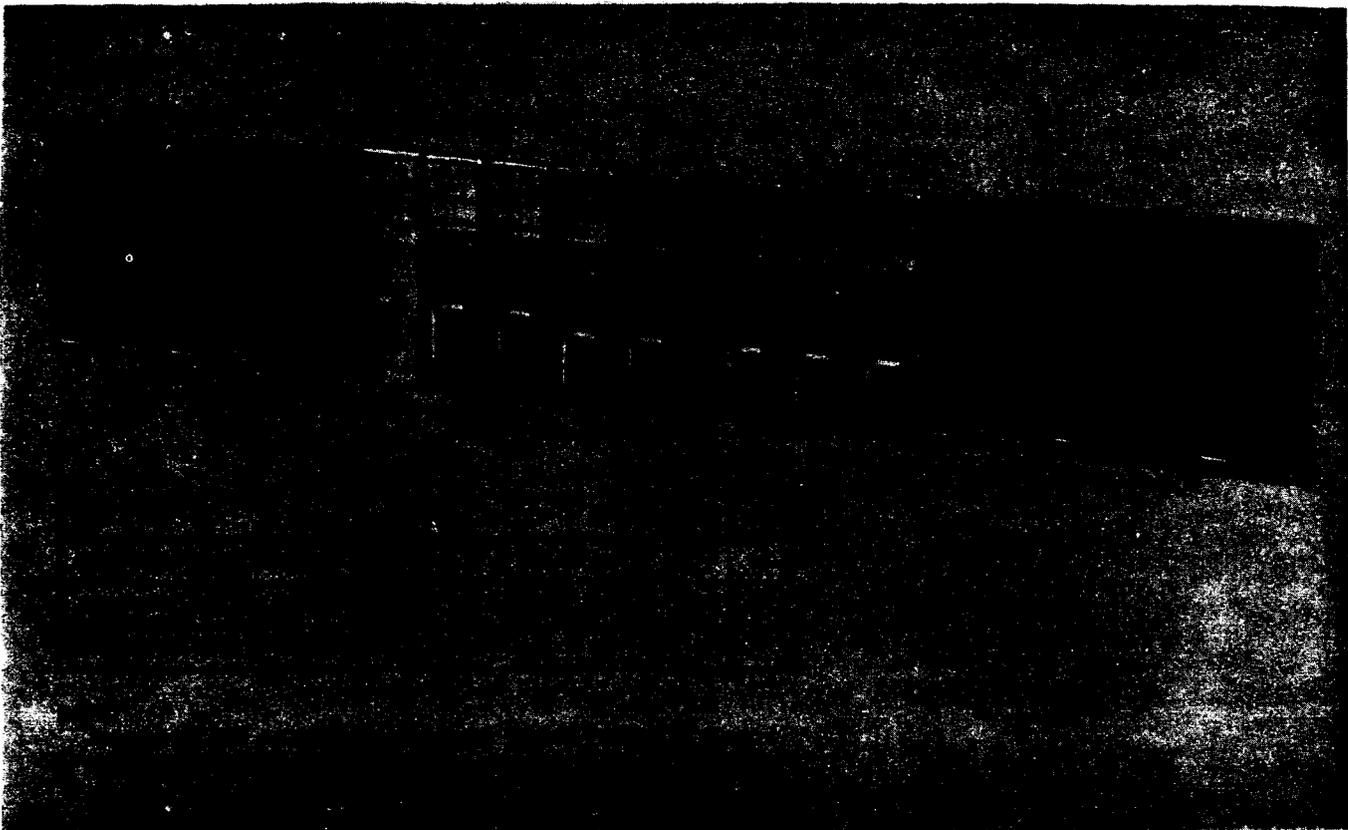

Fig. 6—J68929BP CFA Auxiliary Carrier Supply
1.12 The CFA auxiliary carrier supply (Fig. 6) consists of the following items which are plug-in mounted in the J68929BP shelf.